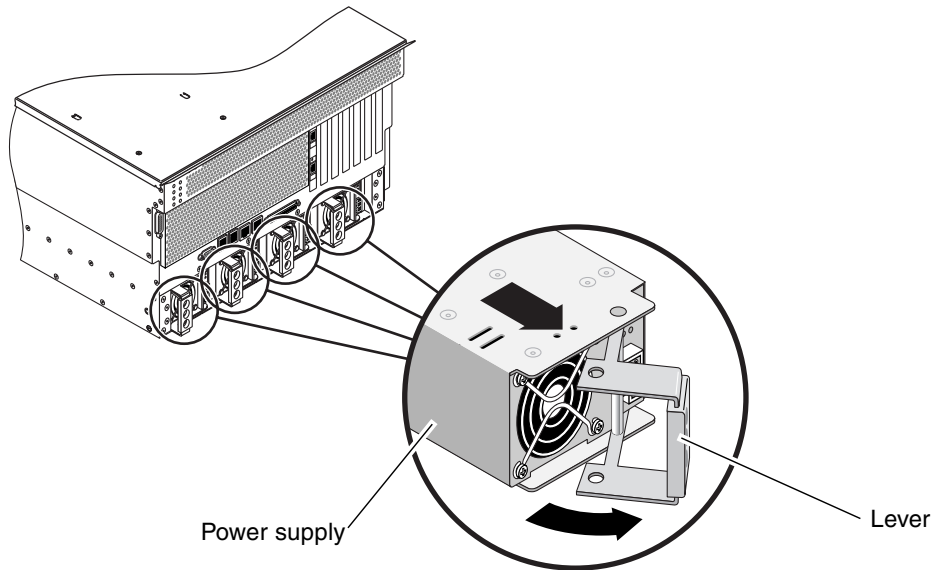

FIGURE 3-4 Removing a Power Supply
6. Pull the lever on the back of the power supply to the right (FIGURE 3-4).
7. Slide the power supply out of the server chassis by pulling on the lever (FIGURE 3-4).